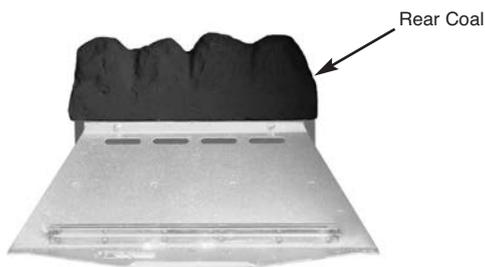

Fig. 20
1. Place the rear coal on the rear coal retainer ledge in a central position (Fig. 20).